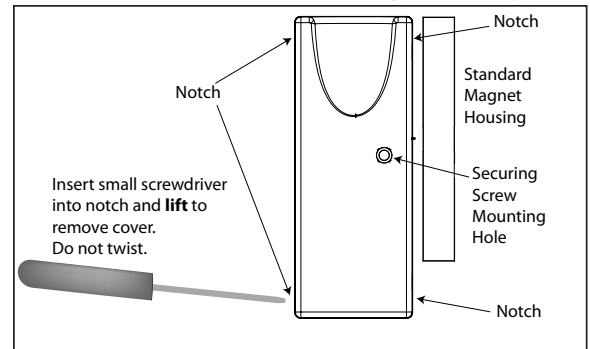

Figure 1: Transmitter and Magnet
1. Remove the cover and battery. See Fig. 1.
1. If installed, remove the transmitter housing cover as shown in Figure 1.